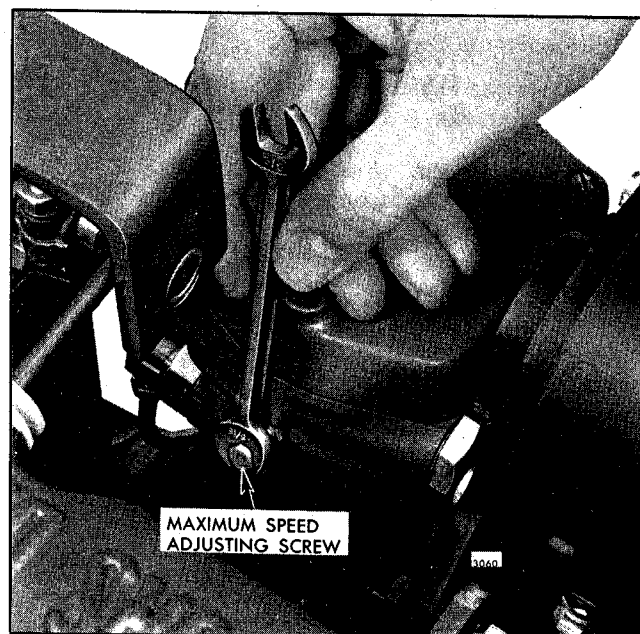

Fig. 5 - Adjusting Maximum Engine Speed
3. Loosen the lock nut and back off the maximum speed adjusting screw (Fig. 5) approximately $5/8$ ".
3. Turn the maximum speed adjusting screw (Fig. 5) in lightly until contact is felt with the linkage in the governor.